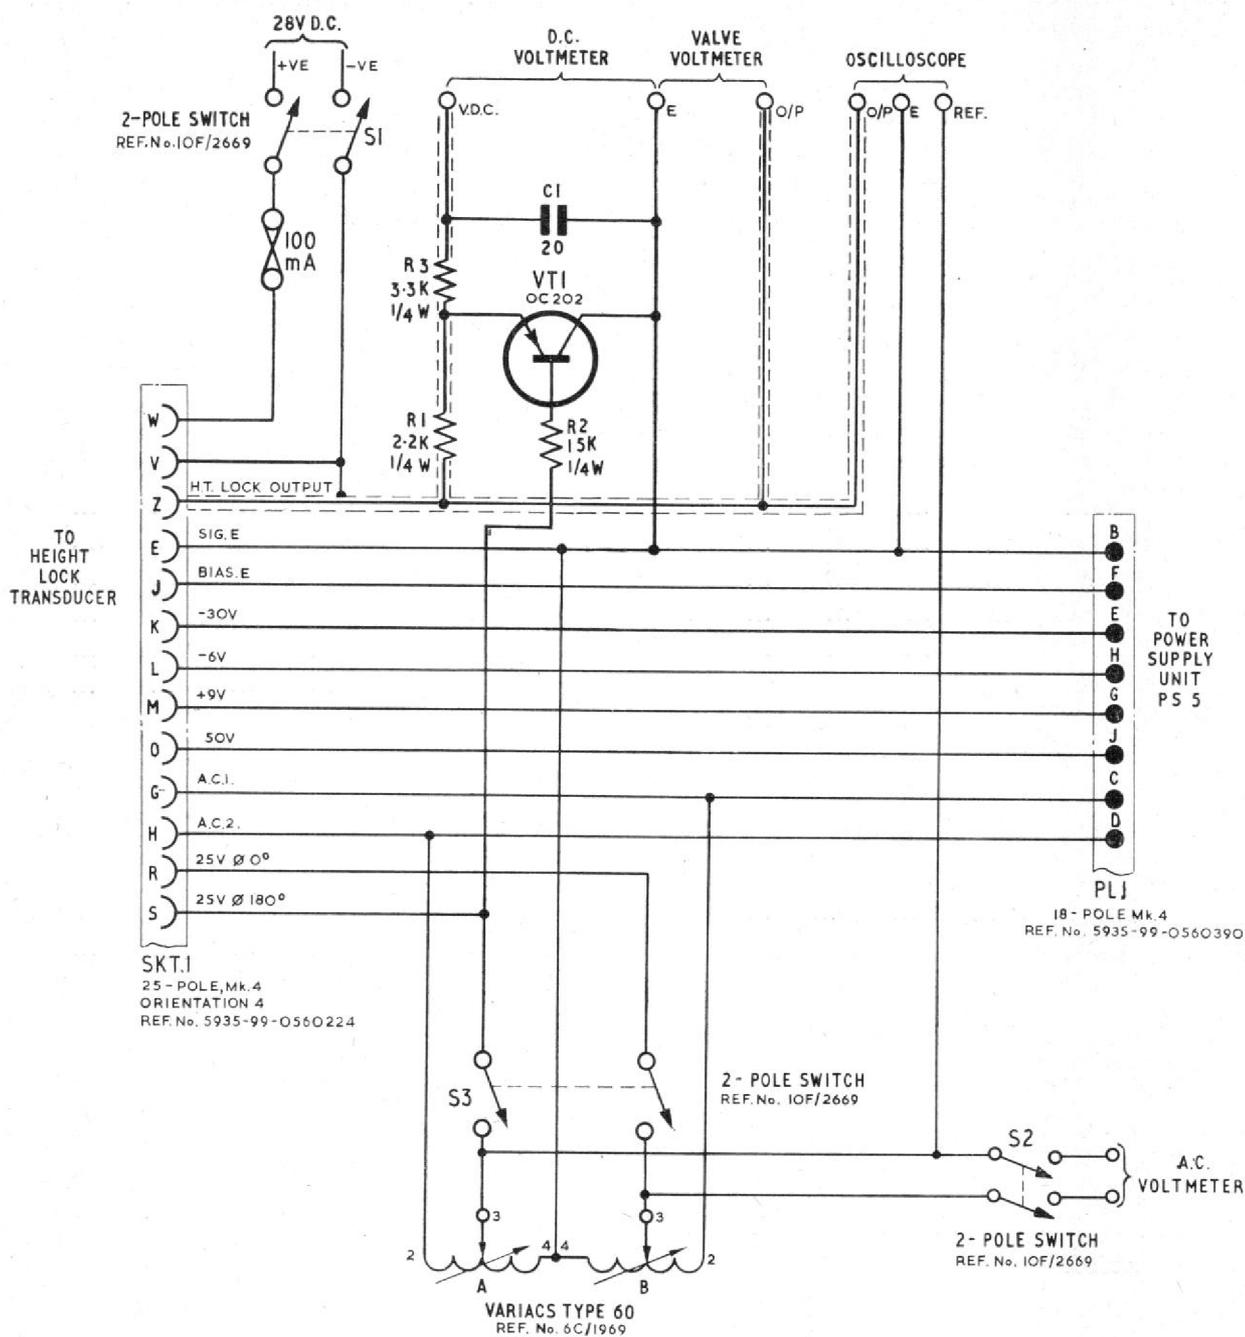

Fig. 1. Height lock transducer, Type A, test set — circuit diagram
3. A locally manufactured test set is also required, details are given in fig. 1.
13. (1) Connect the test set as shown in Fig. 1, but do not connect the oscilloscope.